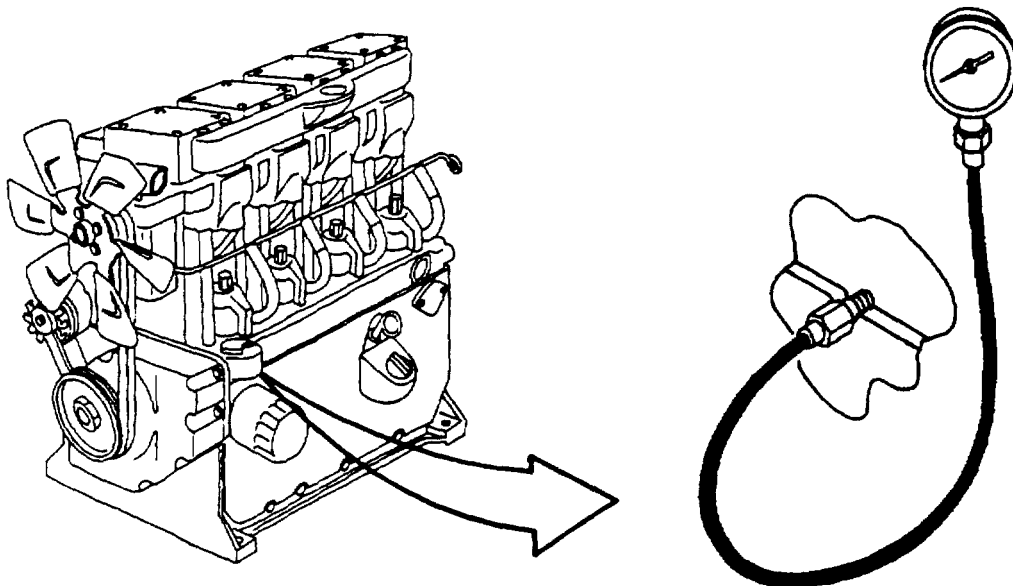

FIGURE 3-18. Oil Pressure Test Setup
- a. Tag and disconnect electrical leads to oil pressure sender, remove oil pressure sender, and install test pressure gage, 0-150 psi (0-1034 kPa). Refer to FIGURE 3-18.